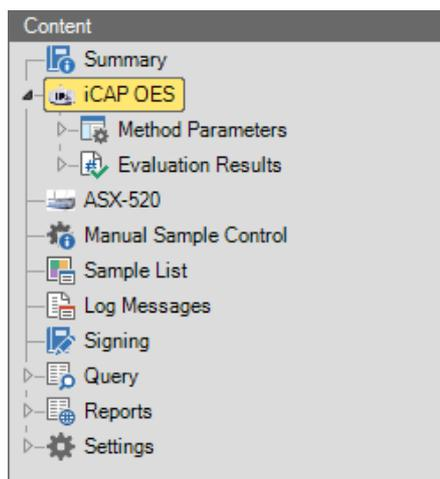

Figure 6-37. Added items of a completed LabBook
- Expand **iCAP OES** to show the items added to the LabBook after measurement, see Figure 6-37.